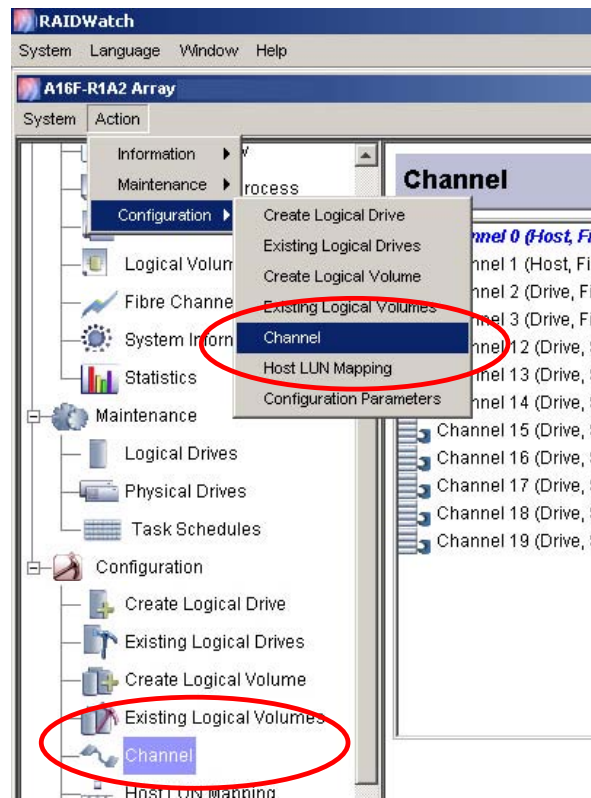

Figure 8-1: Accessing Channel Configuration Window
To access the **Channel** window, use either the command from the Action menu or select the **Channel** icon from the navigation panel. (See **Figure 8-1**).
**Step 1.** Single-click under the **Channel** window to select a corresponding channel. Channel icons are displayed in the left-side panel of the configuration window. The Channel Settings configuration will appear as two separate pages on the right side: **Parameters** and **ID**. (See *Figure 8-1*).